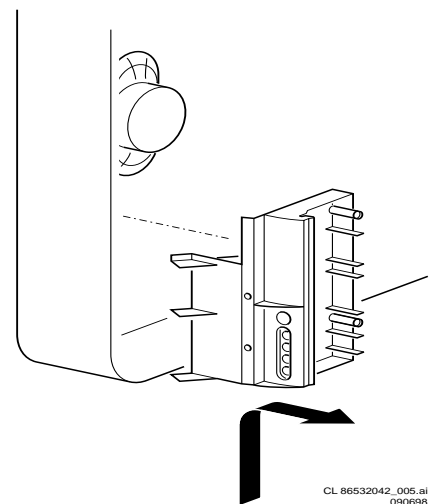

Figure 4-4
3. The two panels must be shifted some 25 cm to the right. When doing this the side-assembly can be taken out of the hinge (see figure 4.4), and placed on the bottom tray.
1. The complete Side I/O-assembly can be lifted out of the hinges and placed on the bottom tray of the set (see figure 4.4).